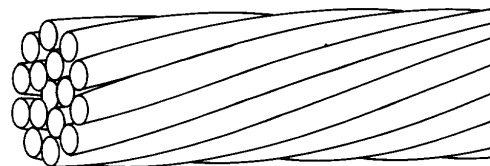

Figure 3. Bunch Stranding
(2). Bunch Stranding is composed of any number of wires of the same diameter twisted together in the same direction without regard to geometric arrangement of the individual strands. Used where low cost is an important factor (Figure 3).